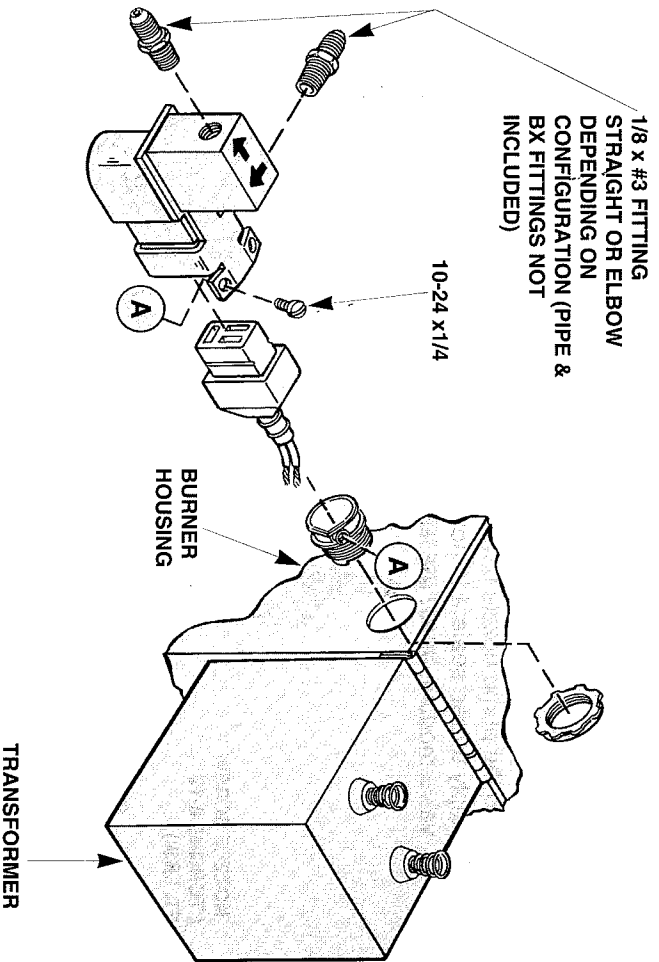

Figure 2. • Valve Installation
C. INSTALLATION • C VALVE (See Figure 2)
3. Apply thread sealant to two (2) nozzle line fittings and install in valve body.